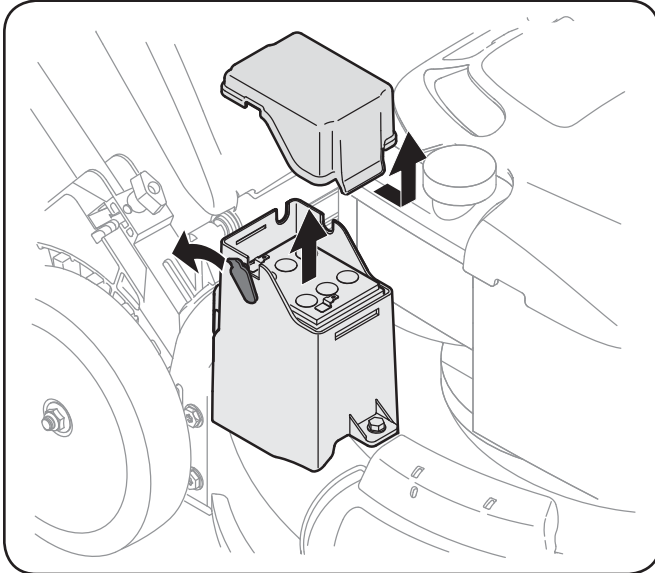

Figure 7-2
2. Remove positive and negative leads from battery, and pull upon battery to remove. See Fig. 7-2.